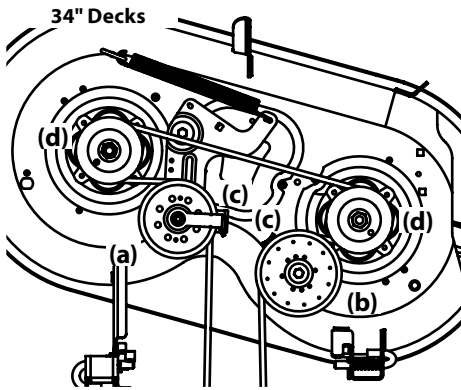
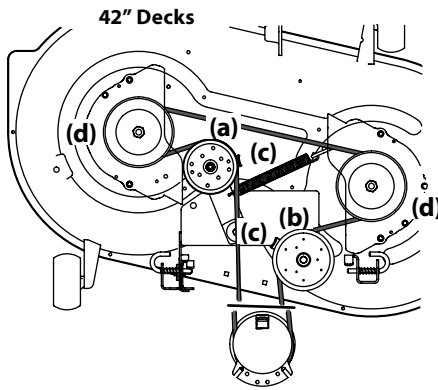

Figure 4-18
Figure 4-19
2. Loosen, but do not remove the hardware on the right (a) and left idler pulley (b). Refer to Figure 4-18 for 34" decks, Figure 4-19 for 42" decks, Figure 4-20 for 46" decks and Figure 4-21 for 54" decks.